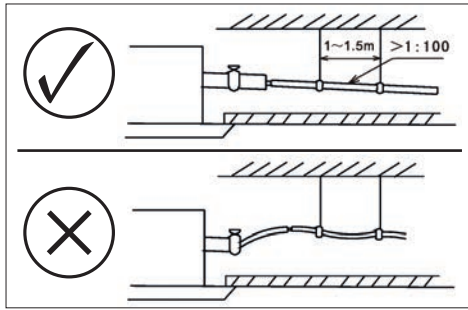

Fig. 6
- Drainage tube installation. The drainage tube should be properly routed to prevent accumulation of condensate. The tube should be mounted with a gradient (1/100-150) to provide free diversion of condensate. Avoid ascending sections to prevent condensate buildup (see Fig. 6 of the Appendix).